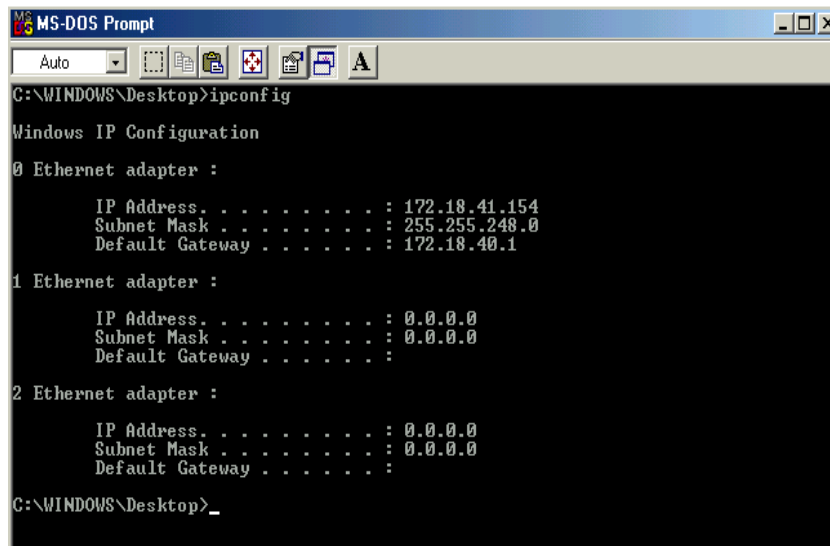
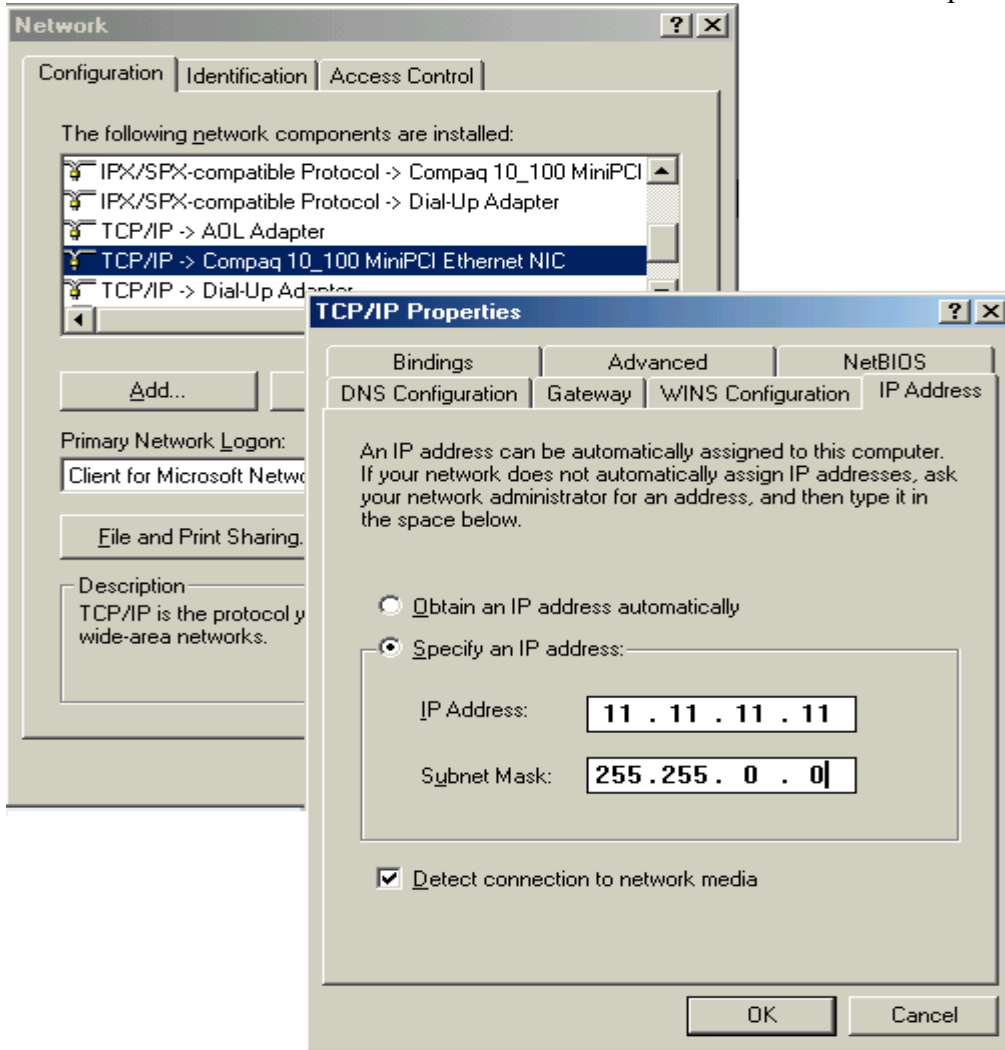

Figure 6. IP Address info on Command Prompt.
Figure 7. Setting the IP address of the Ethernet Adapter.
Step 9: You should see a message similar to Figure 6 in the command window of each PC. Ensure both PCs have compatible IP addresses and subnet masks to allow for proper communication. The quickest method to ensure this is to manually set the IP address within the network setting of windows and selecting TCP/IP properties of the Ethernet adapter of each PC. Set IP address of PC #1 to be 11.11.11.11 with a subnet mask of 255.255.0.0. Set IP address of PC#2 to 11.11.12.12 with a subnet mask of 255.255.0.0. An example is shown in Figure 7.